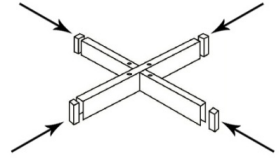

Fig 1
1. Take the two cross base and push the 4 end caps onto the ends. Cross them over together as Fig 1.